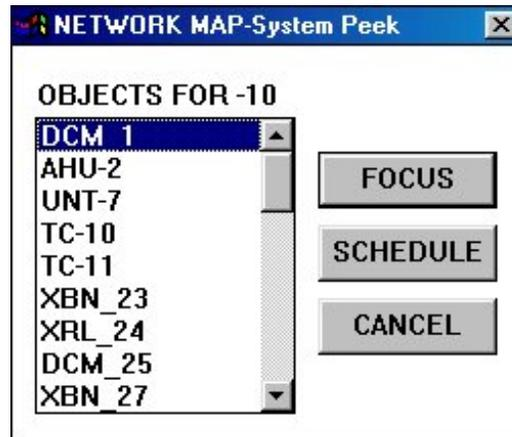

Figure 9-1: System Peek Dialog Box
1. Click the button to the left of the system containing the desired command. The Network Map-System Peek dialog box appears (Figure 9-1).
- Click the button to the left of the system containing the desired object. The Network Map-System Peek dialog box appears (Figure 9-1).
1. Click the button to the left of the system containing the object. The Network Map-System Peek dialog box appears (Figure 9-1).